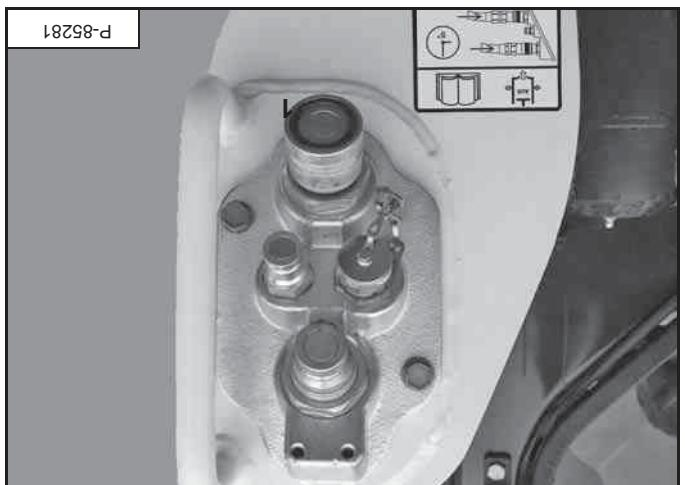

Figure 79
**NOTE: Check that the forestry cutter hydraulic hoses are not twisted or contacting any moving forward on the female coupler [Figure 79].**
forward on the male coupler [Figure 79].